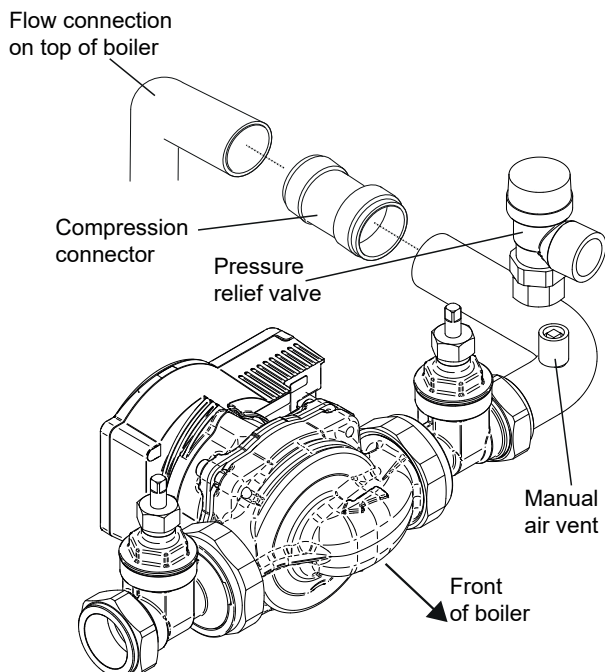

Figure 7-4: Vortex Module 26/36 and 36/46 sealed system kit pump assembly (Wilo Para SC pump shown)
See Figure 7-4
12. Fit the pressure relief valve onto the manifold pipe, then push the manifold pipe end into the 28 mm compression elbow on the flow pipe. Refer to Figure 7-4.